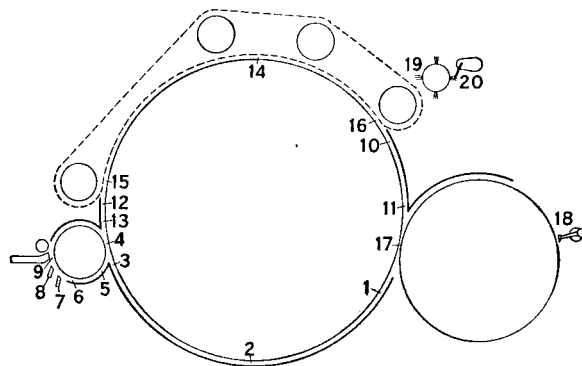

FIG. 14. LOCATION OF SETTINGS
47. Since there are so many different settings on the card, it is a good idea to make up a check list. On top of the list, put the make and model of the card. Then put down the exact type of material you are running, whether cotton or synthetics. Leave room so that later you can mark down the waste percentage, the results of sliver and yarn tests, and so forth. If you fill out such lists for every card you set, you will eventually have an excellent file of reference data. All we can do here is to give a list in Table 2 which you can use as a guide. Remember that the settings given are just average settings. You'll have to determine your own for specific cards and specific jobs. For quick reference, the locations of the settings are marked in Fig. 14. Numbers 1 to 20 on this sketch correspond to the numbers in the table.